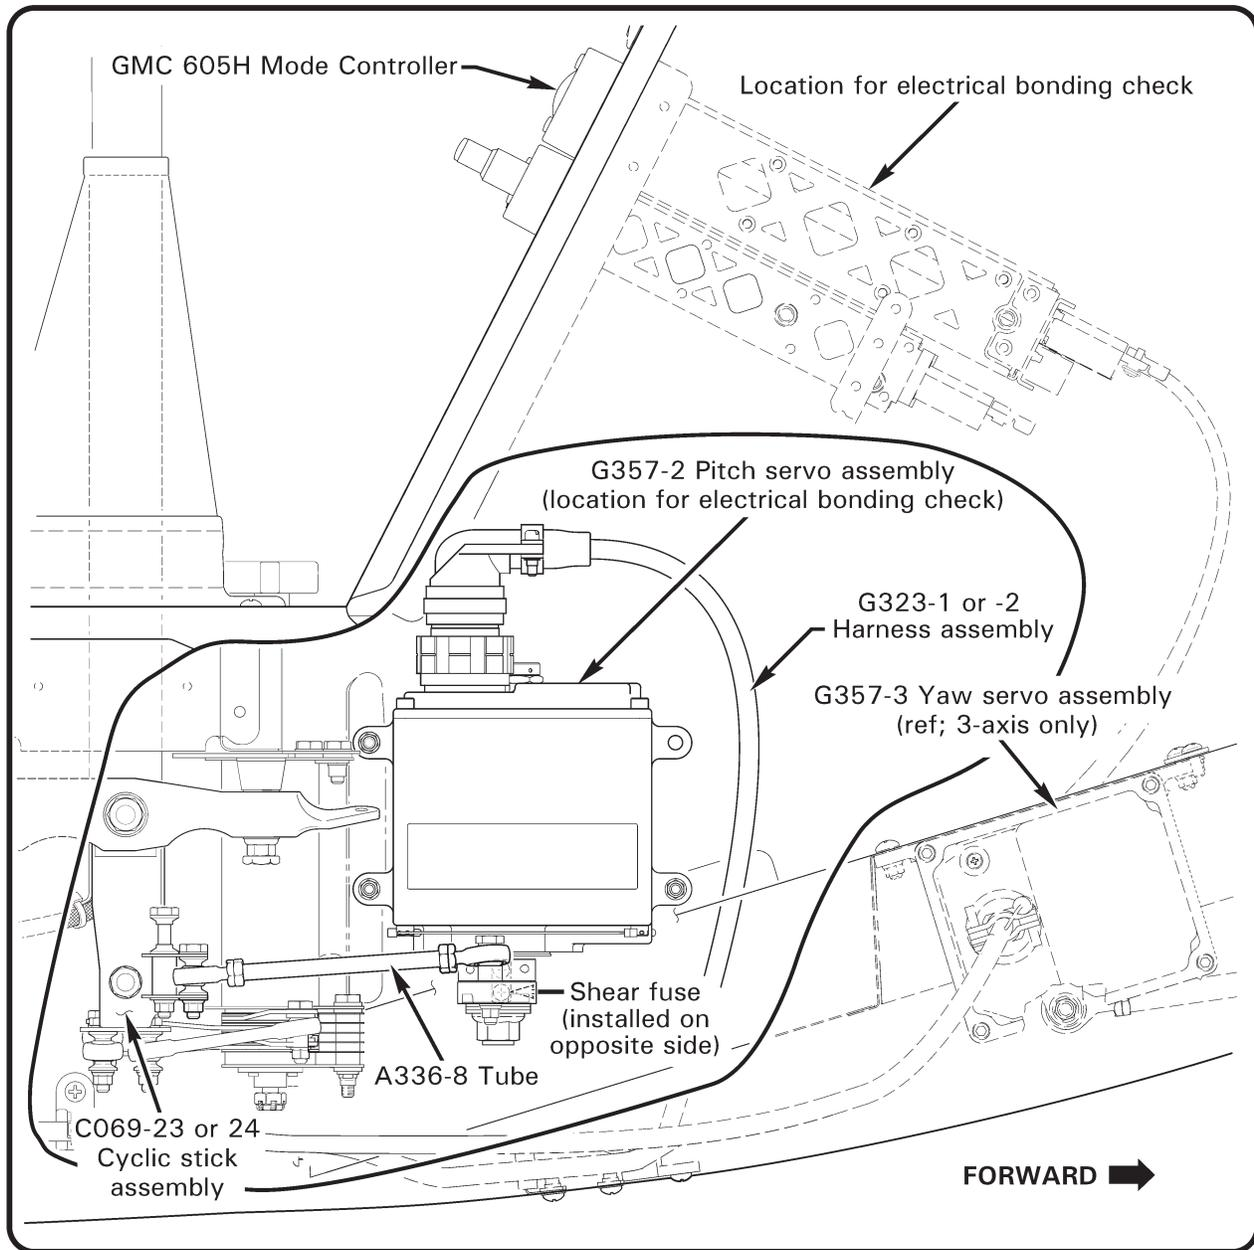

FIGURE 22-2 GARMIN FCS – PITCH SERVO ASSEMBLY
2. Refer to Figure 22-2 and IPC Figure 6-1. Remove hardware securing F680-3 cover and F445 collective covers, F640 avionics face, and F444 cyclic cover.
10. Refer to Figure 22-2 and IPC Figure 6-1. Install hardware securing F444 cyclic cover, F640 avionics face, and F445 and F680-3 collective covers.